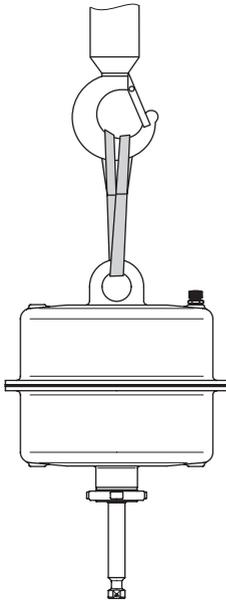

Fig. 3: *Lifting point on the actuator*
1. Attach a sling to the lifting eyelet, eyebolt or swivel lifting hook of the actuator and to the rigging equipment (e.g. hook) of the crane or forklift (see Fig. 3).
We recommend using a hook with safety latch (see Fig. 3). The safety latch prevents the slings from slipping during lifting and transporting.